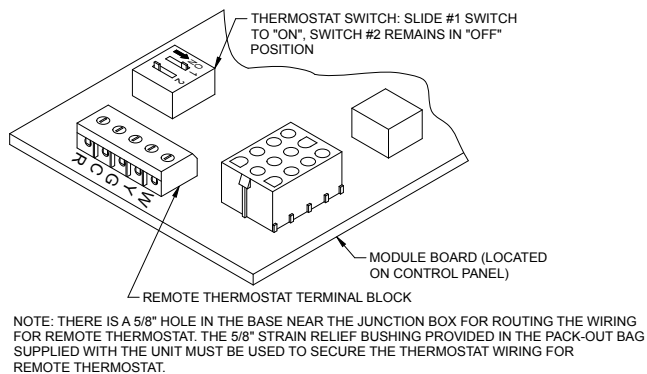

Figure 12
11. The outlet air grille can be installed in either of two positions. The unit is delivered for horizontal air flow. If vertical air flow is desired, remove grille and reinstall in alternate position. (See figure 12)